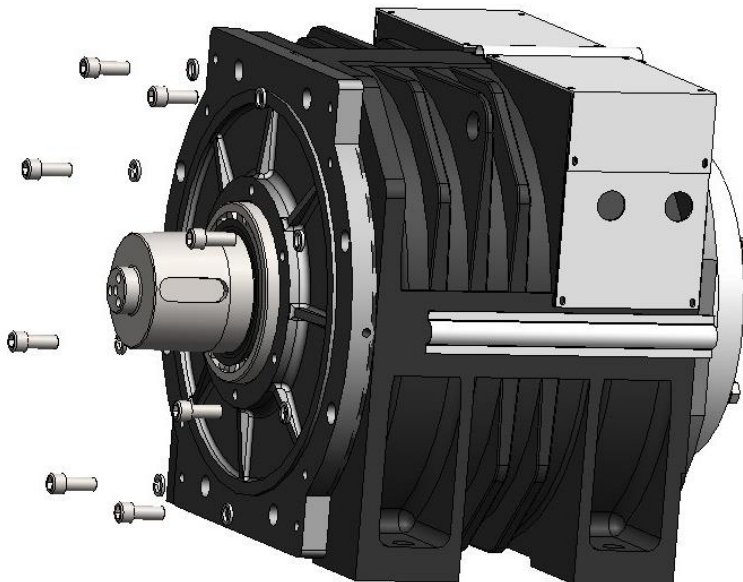

Figure 74: Front cover removal
6. Make a mark in the front-cover and machine base. Loosen 8 hex screws M16x40 with hex wrench (14mm). See Figure 74.